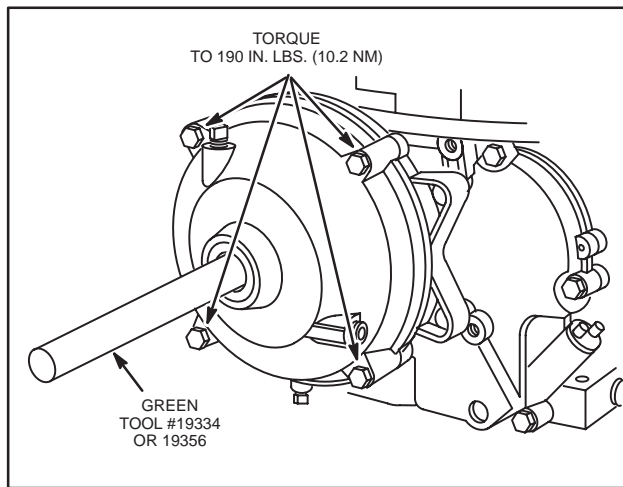

Fig. 142 – INSTALLING GEAR CASE COVER
12. Torque four screws to 190 in. lbs. (21.4 Nm), Fig. 142.